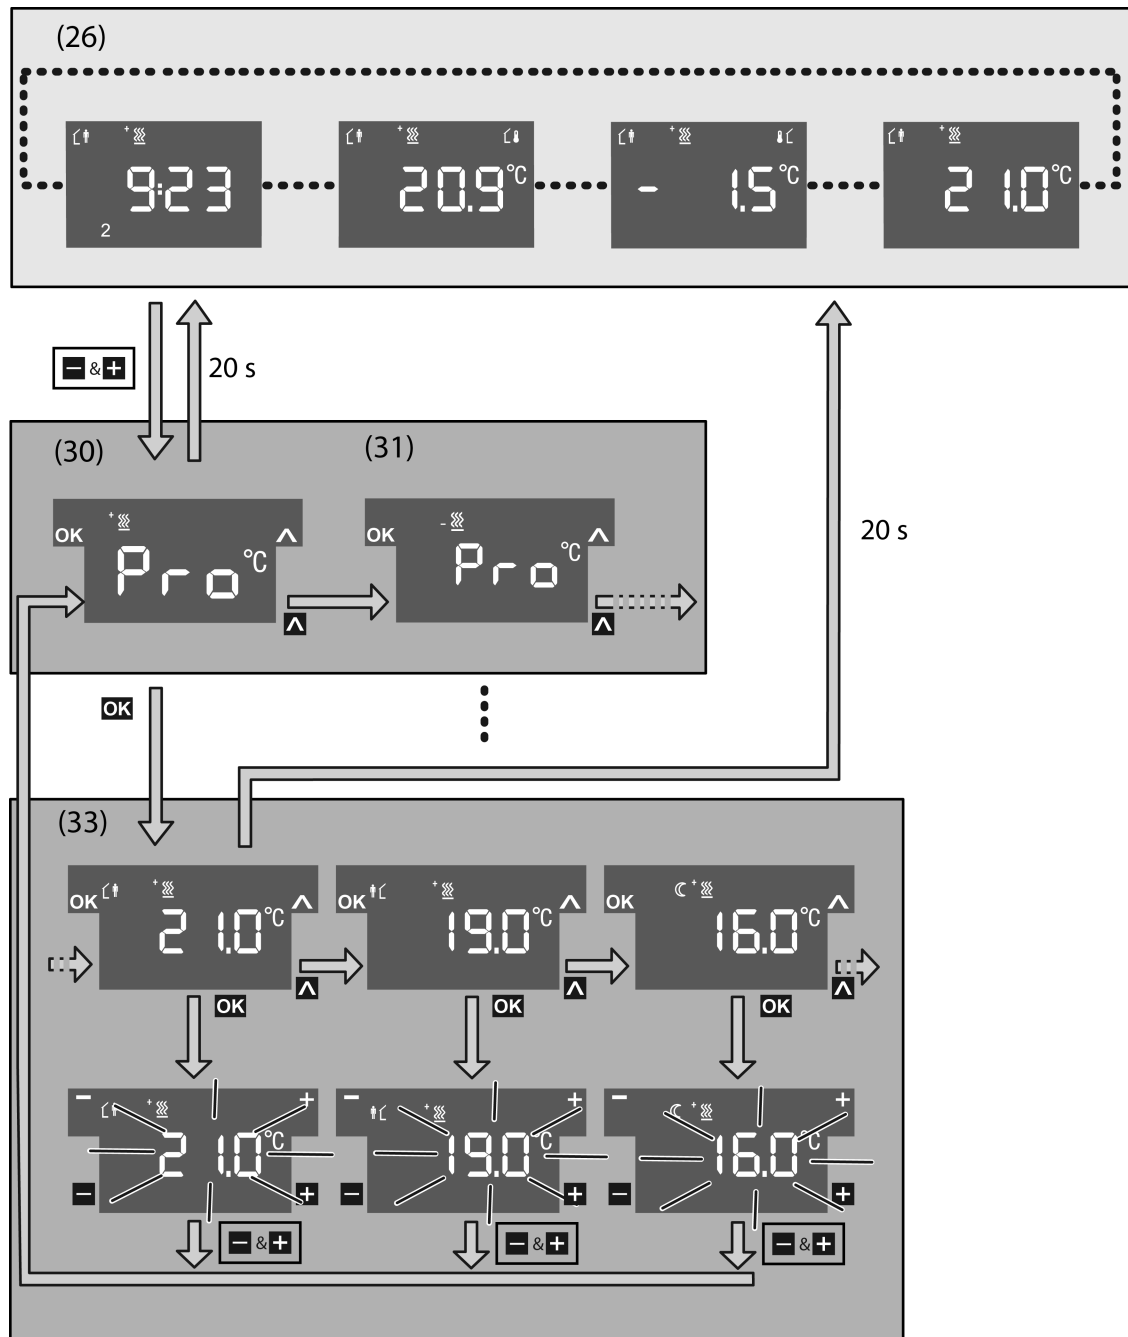

Figure 12: Submenu for changing the setpoint temperatures
- Using the right display button **▲**, select the menu item for the temperature change of heating mode (30) or cooling mode (31) (Figure 12).